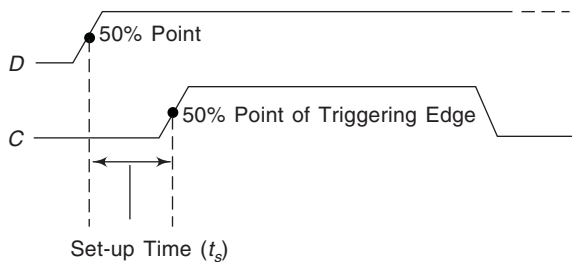

Fig. 12.51 Set-up Time (t_s) for a D Flip-Flop.
2. *Set-Up Time* (t_s) is the minimum interval required for the control levels to be *maintained constantly* on the inputs (J and K , or S and R , or D) *prior* to the triggering edge of the clock pulse for the levels to be *reliably clocked* into the flip-flop (Fig. 12.51).